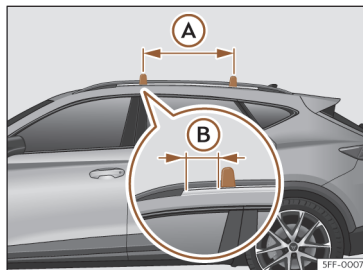

Fig. 194 Attachment points for the roof railings for the roof carrier system.
The crossbars are assembled on the roof railings. The distance between crossbars >>> Fig. 194 (A) should be between 70 and 90 cm and the distance between the crossbars and the brackets of the roof railings (B) must be 9 cm.